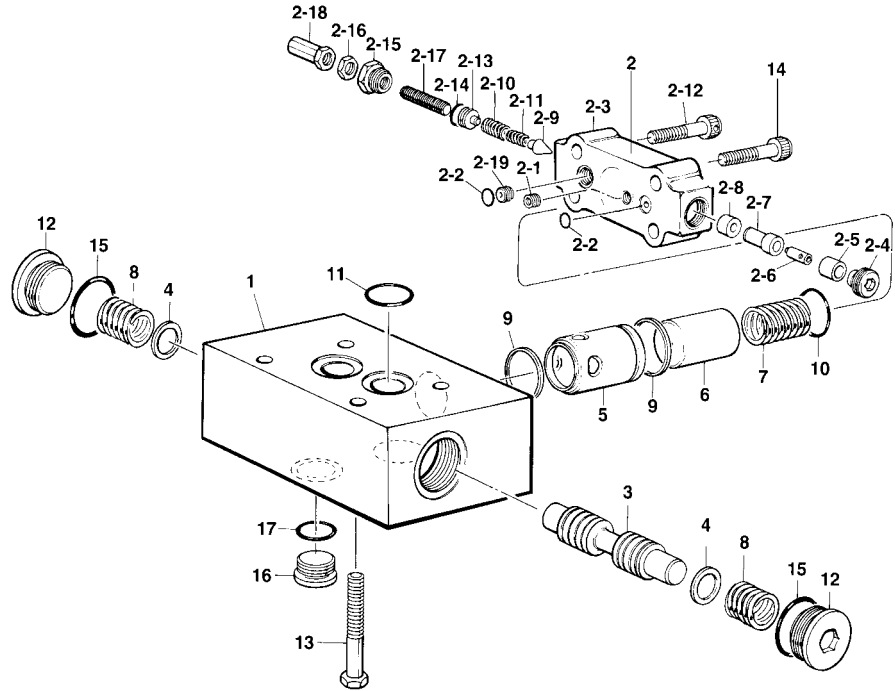

FIGURE 11 EXPLODED VIEW OF SHUTTLE VALVE
See figure 11. Insert seat (2-8) into cap (2-3) and seat in bottom of bore .
See figure 11. Lube spool (3) and insert it into valve body (1). When the spool is fully engaged, move the spool back and forth a few times to check for smooth operation. Spool must move freely in body bore.
PARTS LIST FOR FIGURE 11, S23-11966
PARTS LIST FOR FIGURE 11, S23-11966 ITEM 2
See figure 11. Lubricate tetraseals (11) and place in c'bores of shuttle valve's mounting surface.